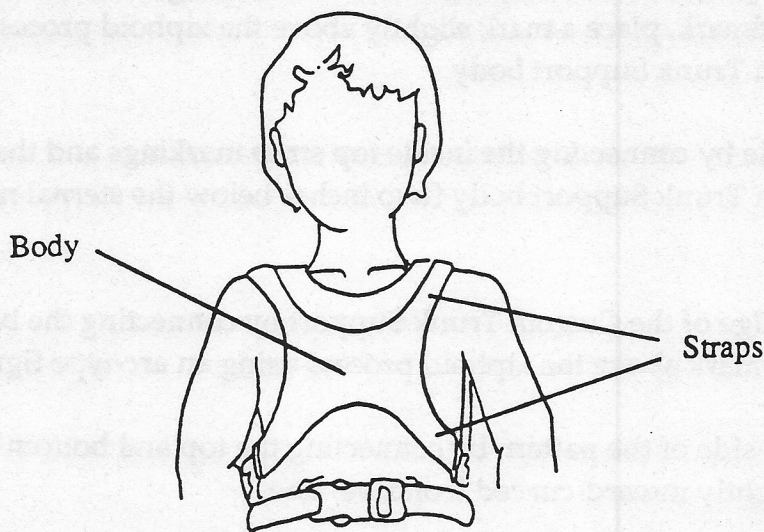

Figure 1
2. Determine the location of the top straps of the Custom Trunk Support. (See Figure 1) Find the center of one shoulder (midway between the shoulder joint and the neck) and mark the paper. Using this point as a centering guide, mark the width of the top strap.